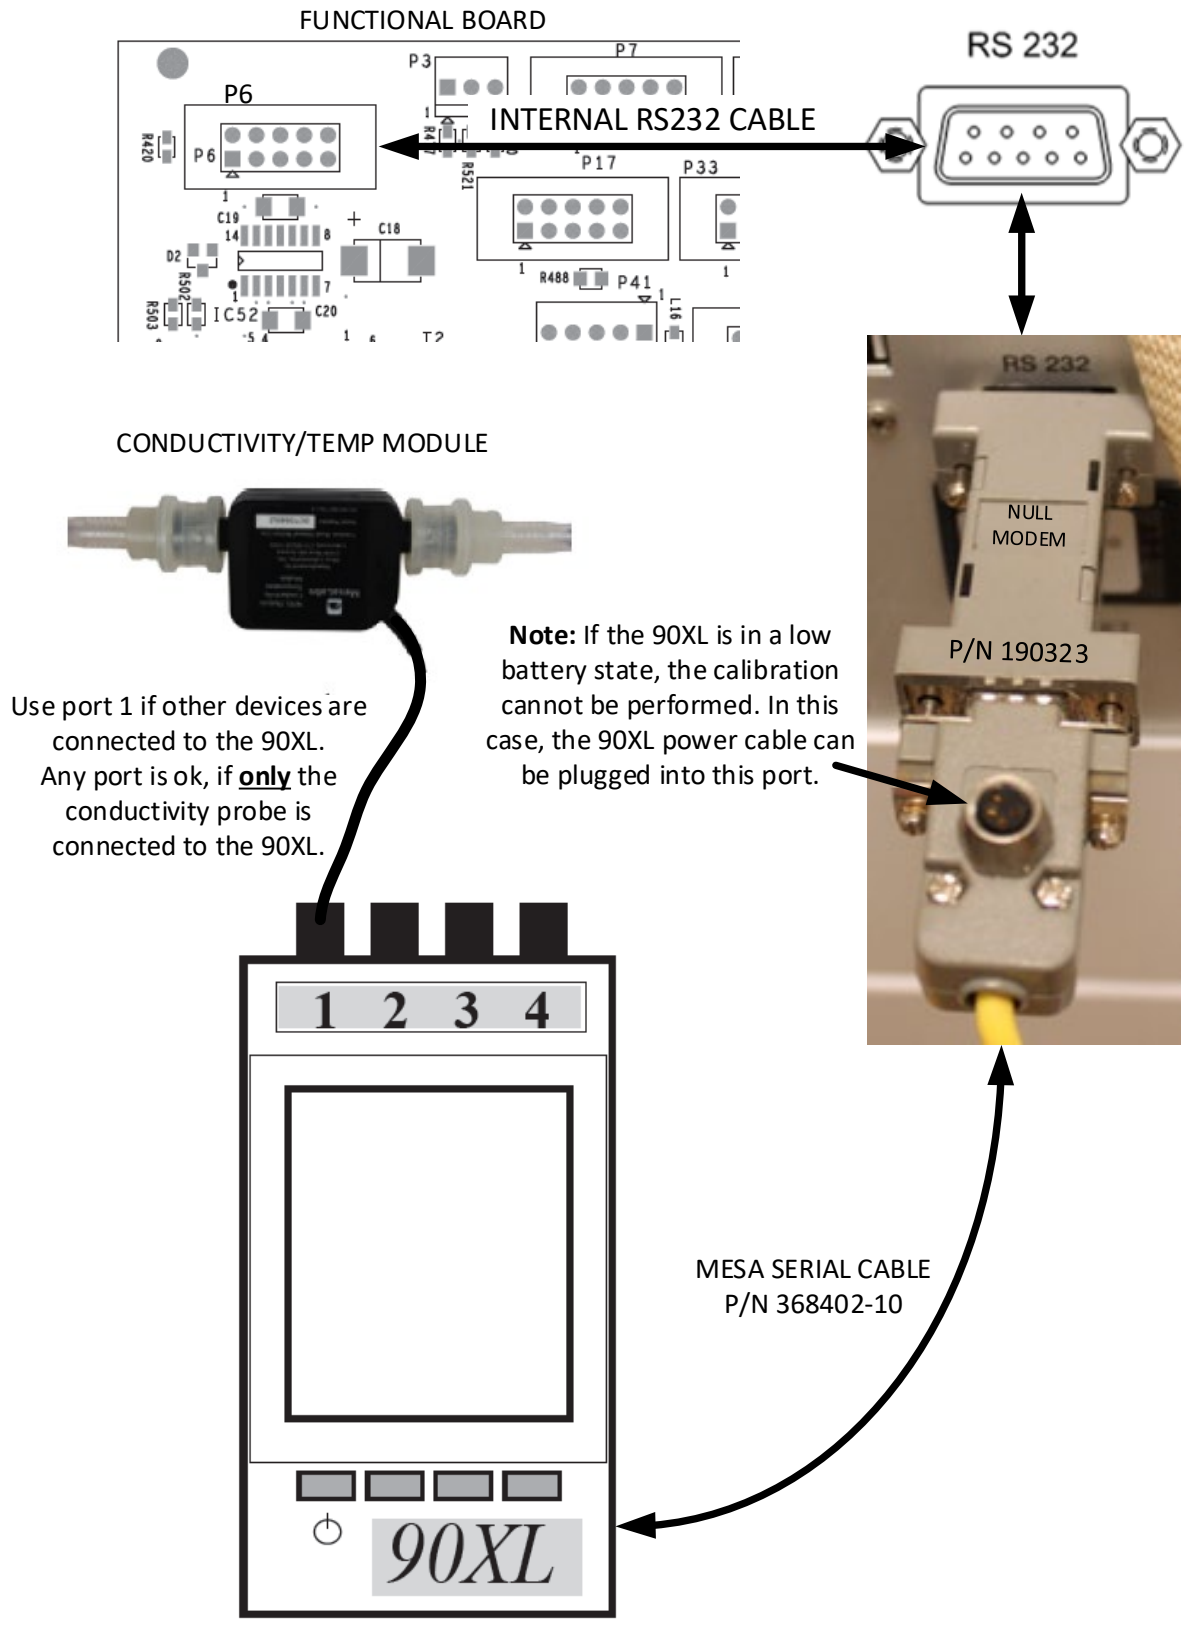

Figure 8 – Null Modem Connection to the 90XL
1. Using the Null Modem, connect the Mesa Serial Cable between the 90XL Dialysate Meter and the RS232 port on the rear of the card cage. Refer to Figure 8 for connection assistance.
**Note:** A No Comm To 90XL message will occur if the internal cable for the RS232 port is not connected to P6 on the Functional board (see Figure 8).